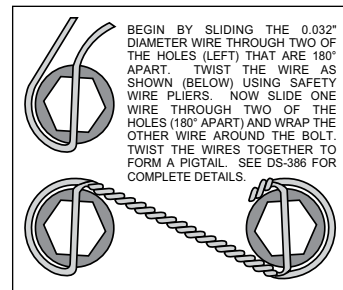

Figure 4. Safety Wire Diagram
- Install wheel studs (11) into the hub (12), Photo 3. Torque to 77 ft-lb. **NOTE:** There are two five lug patterns in the hub (5 x 4.50 and 5 x 4.75). Ensure the correct hub stud pattern is being used to fit the wheel application.
- Pack the large inner bearing cone (13) with high temperature disc brake bearing grease (available from your local auto parts store) and install into the backside of the hub (12), Photo 4.
- Install the grease seal (14, years 1957-1964) or (14A, years 1965-1967) by pressing into the backside of the hub (12), flush with the end of the hub, Photo 5.
- Pack the small outer bearing cone (15) with high temperature disc brake bearing grease and install into the front side of the hub (12), Photo 6. Slide the hub assembly onto the spindle. Secure using spindle washer (16) and spindle nut (17). Adjust bearings per OEM specifications. Install spindle nut retainer (18) and cotter pin (19), Photo 7.
- Screw dust cap (21) into hub (12), Photo 8. Friction created by the o-ring (20) on the dust cap keeps it from unscrewing. **NOTE:** The O.D. of the existing OEM spindle washer may be larger than the I.D. of the dust cap not allowing it to seat against the hub face. Therefore, use the spindle washer (16) supplied with the kit instead of the OEM washer.
- Orient the rotor (22) and the hat (23) as shown in Figure 1 or 2 and Photo 9. Attach rotor to hat using bolts (24) and washers (25). Apply red *Loctite*® 271 to the bolt threads and torque to 155 **in-lb** using a criss-cross pattern. For an added measure of security, the bolts may be safety wired using standard 0.032 inch diameter stainless steel safety wire as shown in Figure 4. Refer to Wilwood's data sheet DS-386 (available at [www.wilwood.com/Pdf/DataSheets/ds386.pdf](http://www.wilwood.com/Pdf/DataSheets/ds386.pdf)) for complete safety wire installation instructions.
- Slide the hat/rotor assembly (23/22) onto the hub (12) taking care to align the small countersunk holes in the hat with the small threaded holes in the hub, Photo 10. **NOTE:** The hat must fit flush against the hub face or excessive rotor run out may result. Install three flat head screws (26) through the small holes in the hat, and torque to 85 **in-lb**.